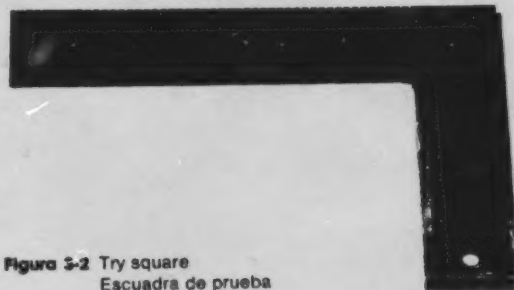

Figure 3-2 Try square
- A **tri square** to measure with and to draw a line across the surface, edge, or end of the stock (Figure 3-2).